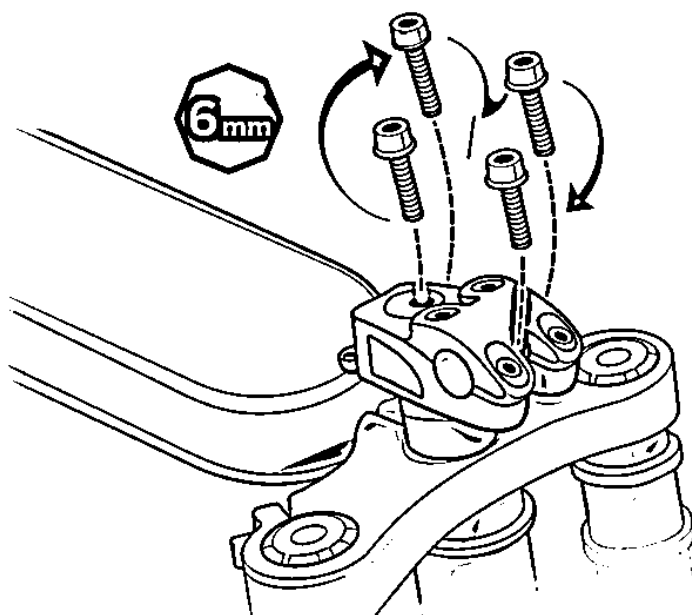

Fig.3
1. Loosen the handlebar clamp bolts and remove the faceplate (See Fig. 3).